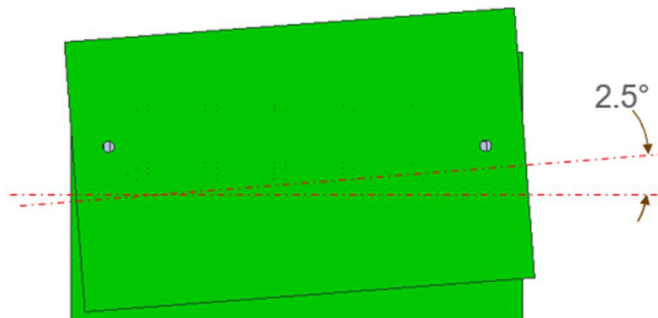

Figure 11
3. The connector guide is with ability $\pm 2.5^\circ$ angle offset available in mating surface direction. See Figure 11.